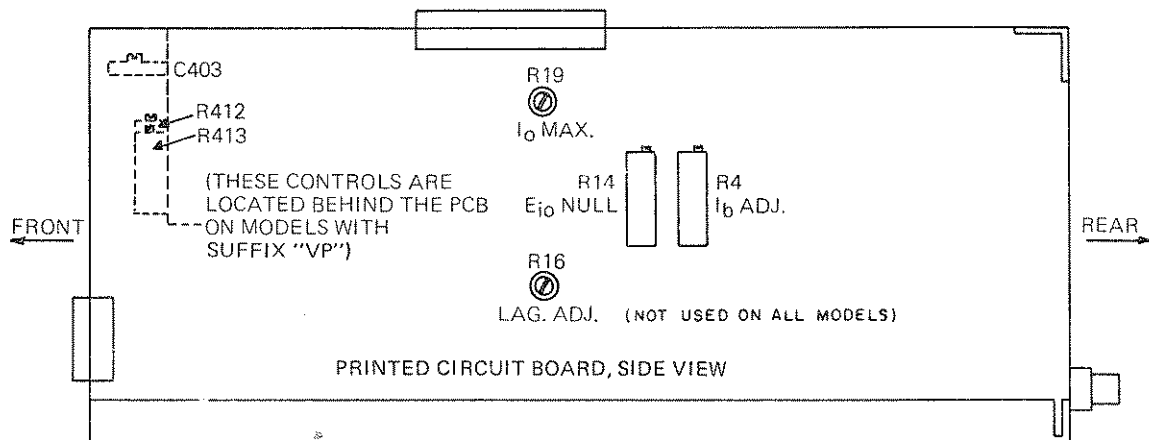

FIG. 2-1 LOCATION OF INTERNAL ADJUSTMENTS
- c) INTERNAL ADJUSTMENTS AND CALIBRATIONS: Refer to FIG. 2-1 and TABLE 2-1.
- (Models suffixed, "-VP" only). Check the "crowbar" action of the overvoltage protector by first adjusting the VOLTAGE CONTROL to about 1/4 of its range. Locate the "OVERVOLTAGE LEVEL" adjustments (R412,413 refer to FIG. 2-1) and turn the "Coarse" adjustment (R413) slowly counterclockwise until the output voltage goes suddenly to zero as observed on the panel meter. Turn AC POWER SWITCH\* "off." Turn the "OVERVOLTAGE LEVEL" control (R413) fully clockwise again.